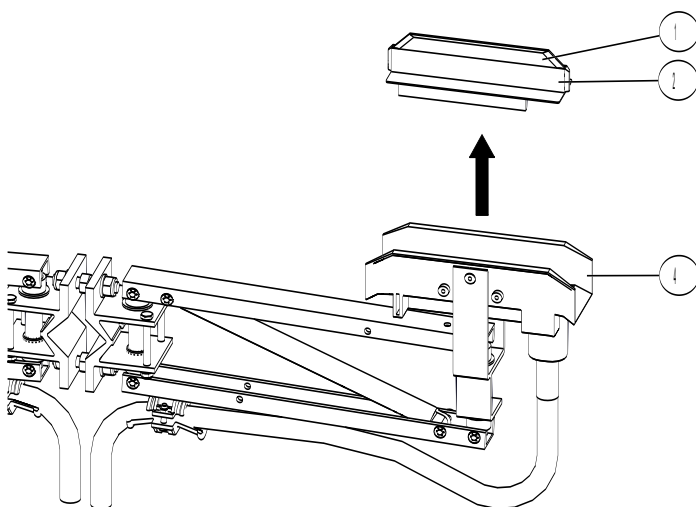
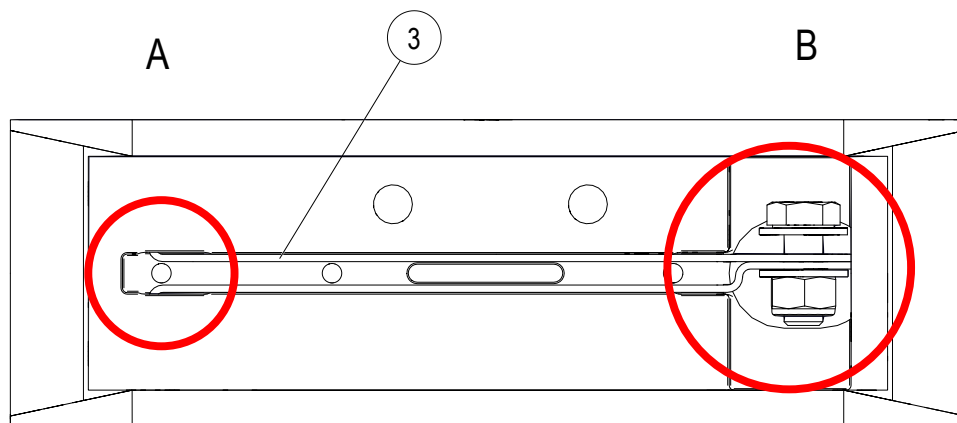
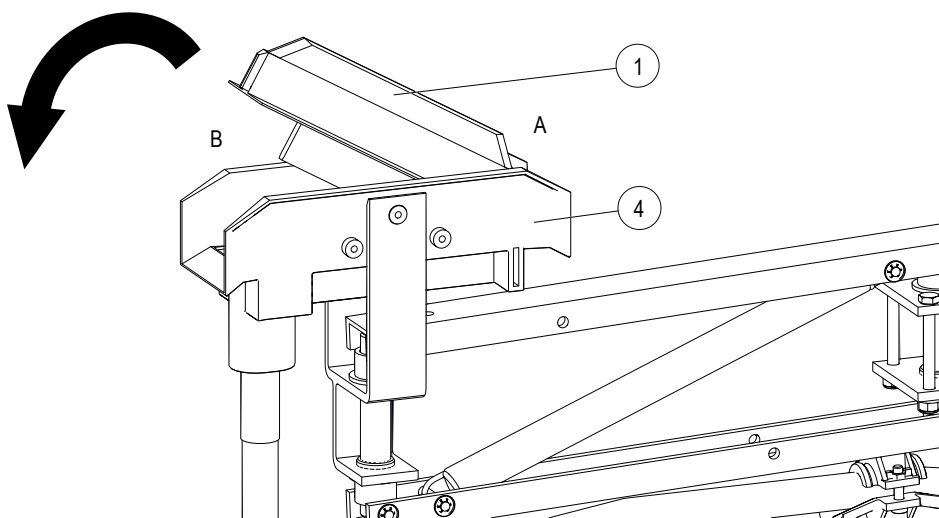

Fig. 123: Remove sliding contact (item 1) and plastic insulator (item 2)
Fig. 124: Widest side (A) and narrowest side (B) of the contact sheet (item 3)
Fig. 125: Sliding contact recess on the side of the cable
To replace the sliding contact (item 1) (see Fig. 123), the following steps must be carried out:
- Hold the current collector head and pull out the sliding contact (item 1) with its plastic insulator (item 2) using water pump pliers. Start pulling out on the widest side (= side A in Fig. 124) of the contact sheet (item 3) (see Fig. 123 and Fig. 124).
- Clean the area under the plastic insulator (item 2), especially the contact surface of the contact sheet (item 3) (see Fig. 124).
- Manually press the new sliding contact with its plastic insulator into the sliding contact insulation (item 4) (see Fig. 125). Start at the widest side of the contact sheet (side A in Fig. 124) and then insert the sliding contact completely while turning it. Do not use any tools (e. g. hammer) when pressing in, as this may damage the contact surfaces of the sliding contact. The following must be observed during insertion:
- The sliding contact recess (item 1) must be located on the side of the cable (side B) (see Fig. 125).